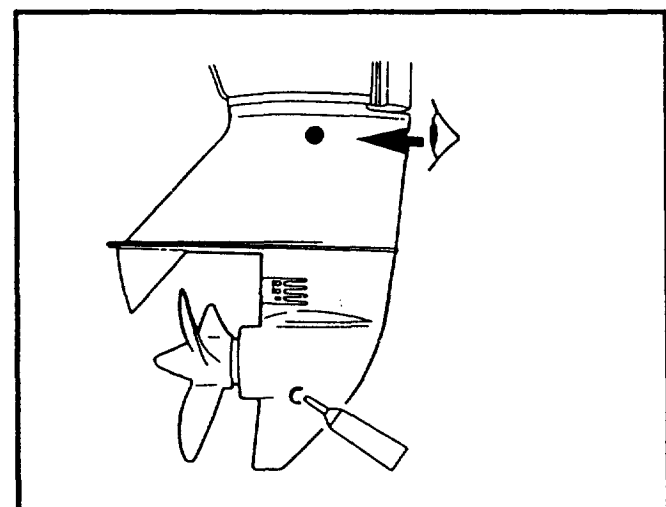

FIGURE 35
- Add lube until it appears at vent hole (Figure 35).